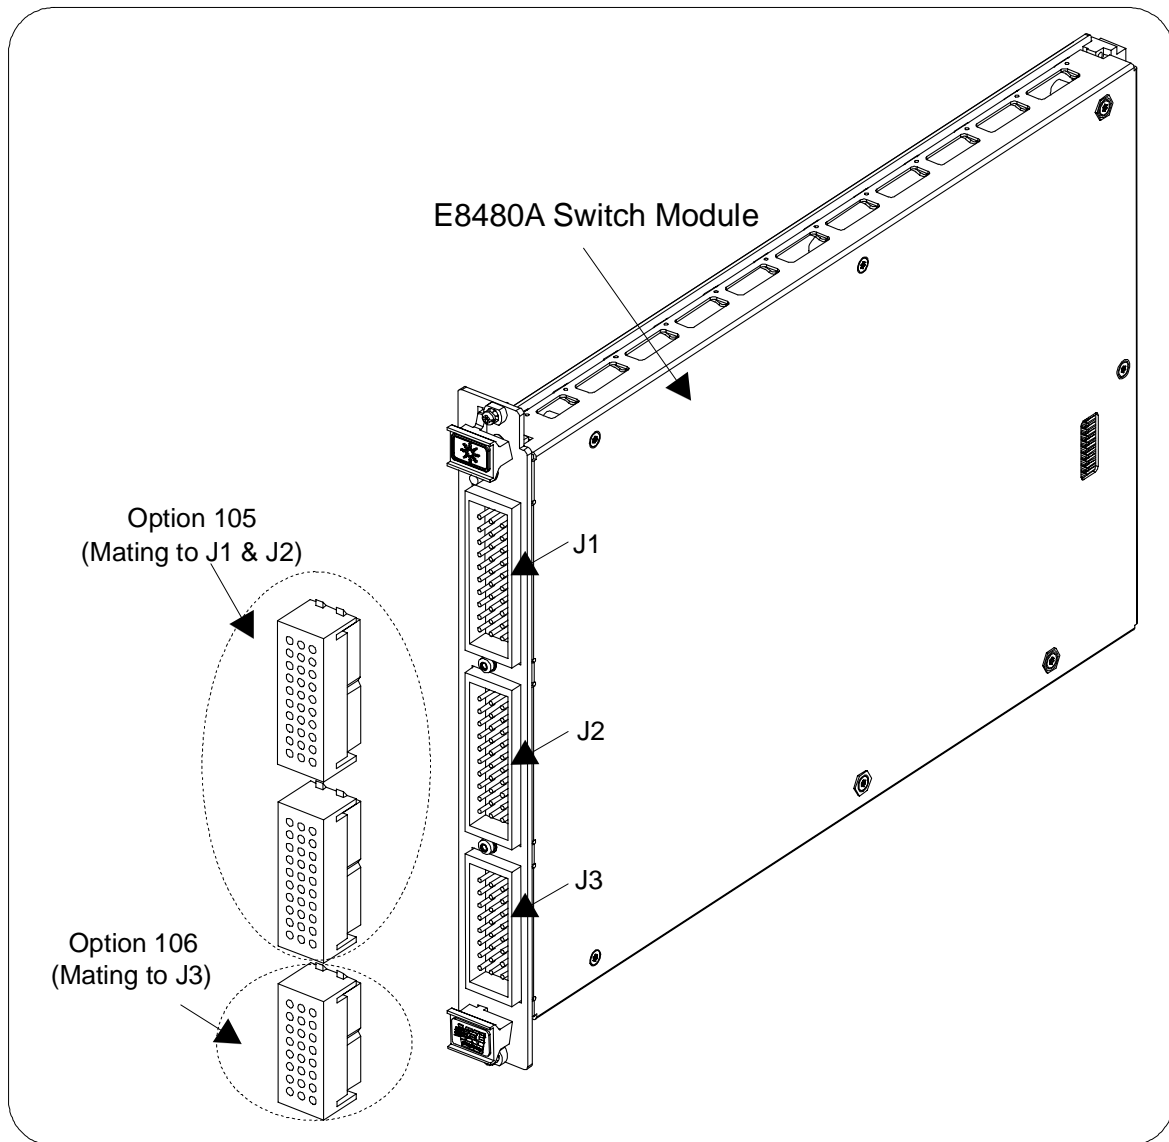
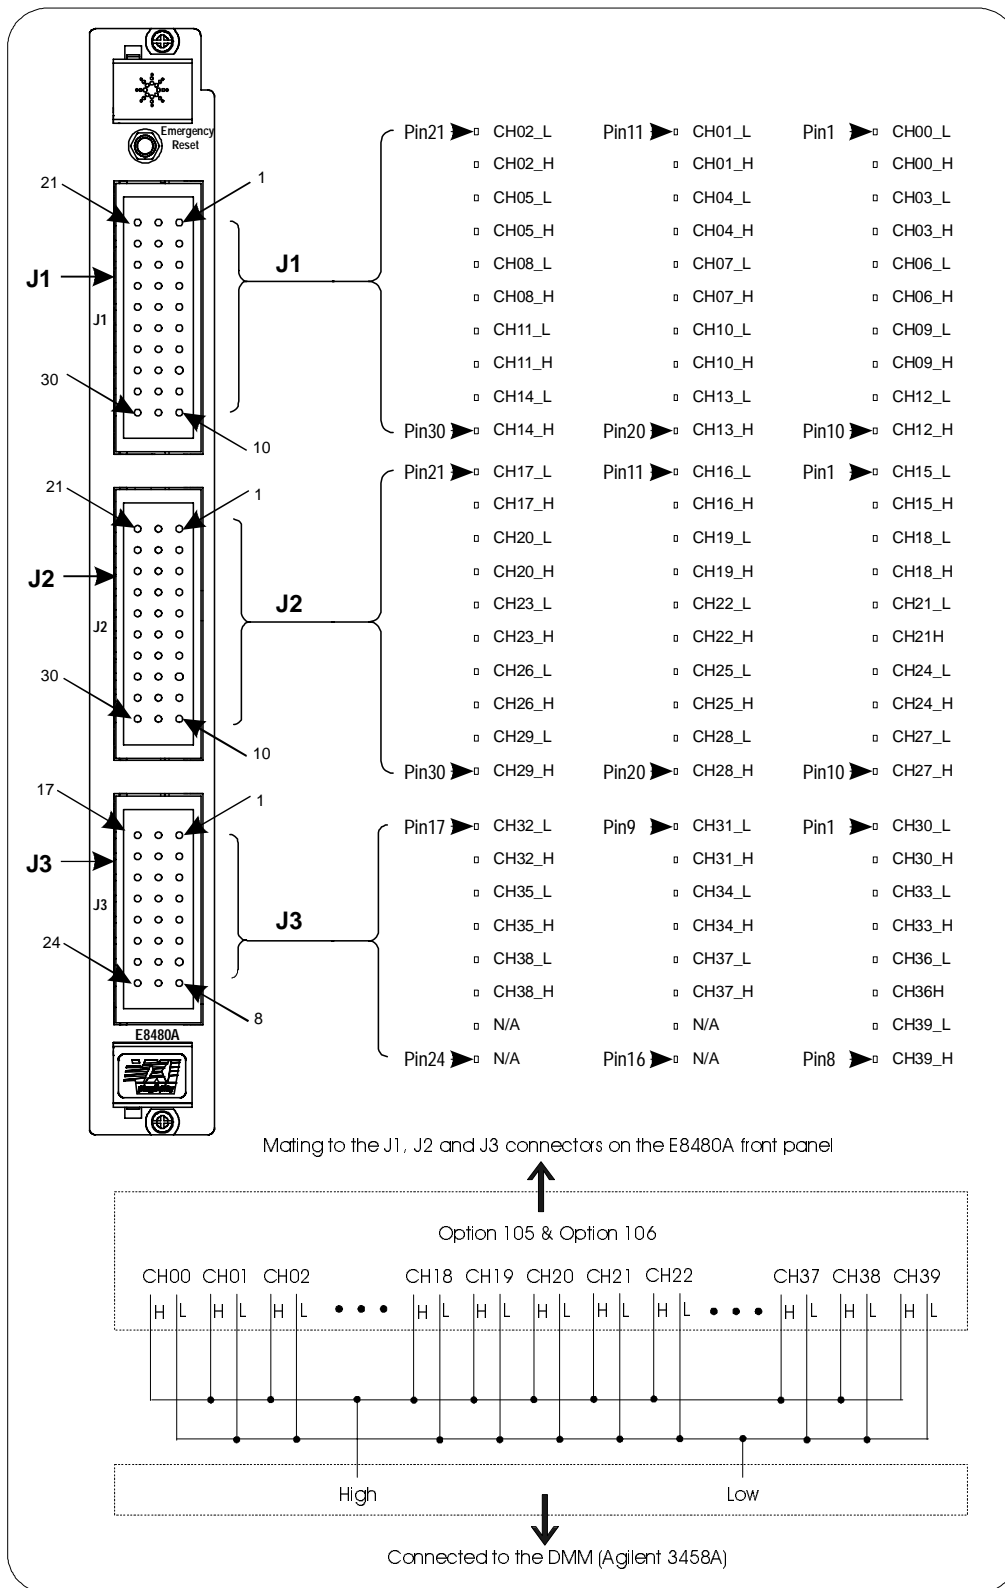

Figure 1-4. Option 105 & Option 106
Figure 2-1. Typical Test Fixture
User inputs to each channel are made via the separately-ordered female connectors which mate to the male connectors J1, J2, and J3 on the module's front panel (see Figure 1-4). Option 105 contains two 30-pin female connectors for mating to the J1 and J2 male connectors and 60 crimp-and-insert contacts for easily wiring user connections. Option 106 contains one 24-pin female connector for mating to the J3 male connector and 24 crimp-and-insert contacts for easily wiring user connections.
To simplify the following performance verification tests (Closed-Channel Resistance Test and DC Isolation Test), both Option 105 and Option 106 (see Figure 1-4) are required to make the test connections. Option 105 contains two 30-pin female connectors for mating to the J1 and J2 male connectors and 60 crimp-and-insert contacts for accepting test wirings. Option 106 contains one 24-pin female connector for mating to the J3 male connector and 24 crimp-and-insert contacts for accepting test wirings. Figure 2-1 shows the typical connections for the following performance tests, as well as the J1 through J3 connectors pinout matching to the channel numbers.
3. Make hardware connections as shown in Figure 2-2. See Figure 2-1 for the connectors pinout matching to the channel numbers.
3. Make hardware connections as shown in Figure 2-3 to measure the DC isolation resistance for Channel High to Channel Low. See Figure 2-1 for the connectors pinout matching to the channel numbers.